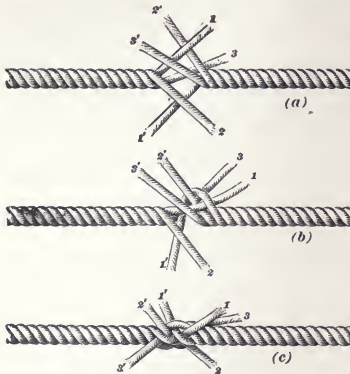

FIG. 1.
22. **Splicing a Sling.**—To make a short splice in a sling, untwist the strands for some distance from each end of the rope. Take an end in each hand and lay the strands within one another, as shown in Fig. 1 (a). The strands 1', 2', and 3' may be tied to the left-hand end for convenience in handling. Now take the strand 1, pass it over strand 2' and under strand 1', as shown in Fig. 1 (b); then, draw it
tight. Next, take strand 2, pass it over 3' and under 2', drawing it up tightly. Now take strand 3, pass it over 1' and under 3'; then draw it up. The splice will now appear as shown in Fig. 1 (c).